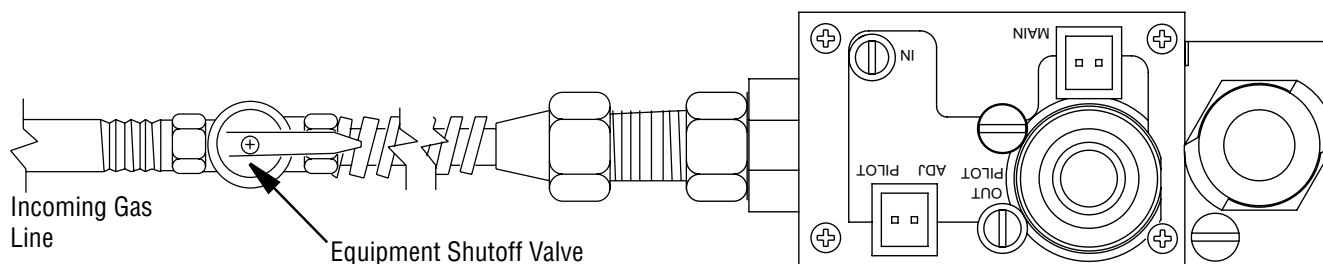

Figure 31 - Turning Equipment Shutoff Valve to the OFF Position
3. Turn equipment shutoff valve clockwise ↻ to the OFF position (see **Figure 31**). Do not force.
4. Wait five (5) minutes to clear out any gas. Then smell for gas, including near the floor. If you smell gas, STOP! Follow "B" in the safety information. If you don't smell gas, go to the next step.